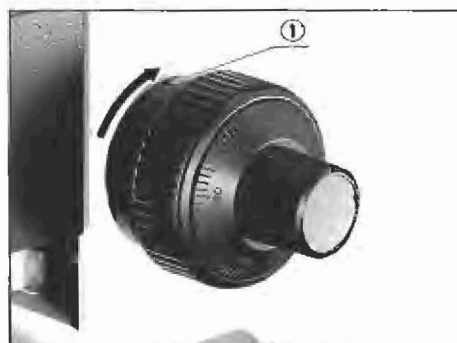

Fig. 25
- 1) A tension adjustment ring ① is provided next to the coarse adjustment knob. With this device the tension of the coarse adjustment is freely adjustable for either heavy or light movement, depending upon operator preference. (Fig. 25)